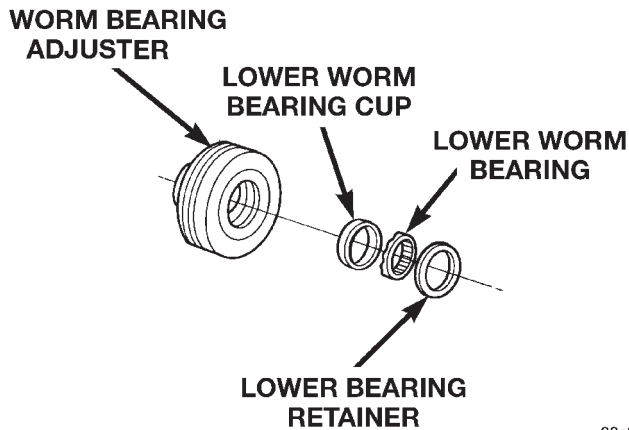

Fig. 14 Lower Bearing Cup
- (2) Remove lower bearing (Fig. 14).
- (3) Place locknut on the adjuster and place in a vise. Remove lower bearing cup with Puller 7794-A and a slid hammer.